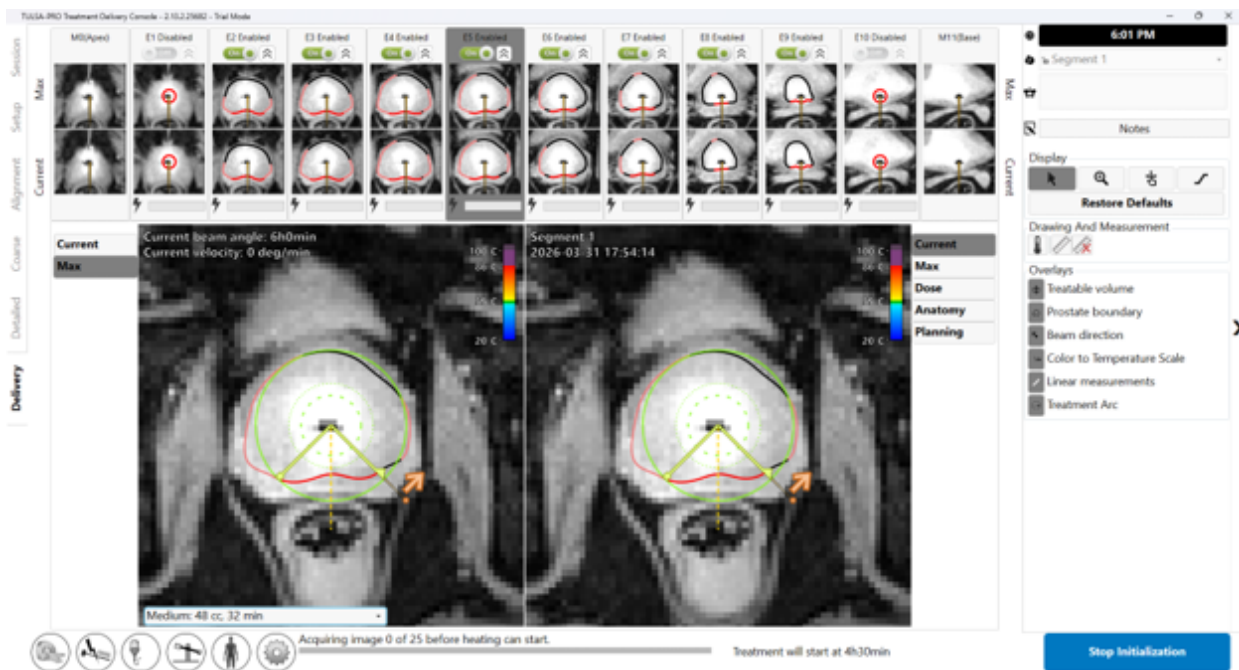

Figure 46: Treatment Initialization state
2. **Radiologist:** Click **Start treatment** on TDC. A window will prompt you to verify the core body temperature using an external temperature measurement device before proceeding. Enter the temperature in degrees Celsius and click **Confirm**. The software will enter **Treatment Initialization** where it will wait to receive thermometry images (*Figure 46*).